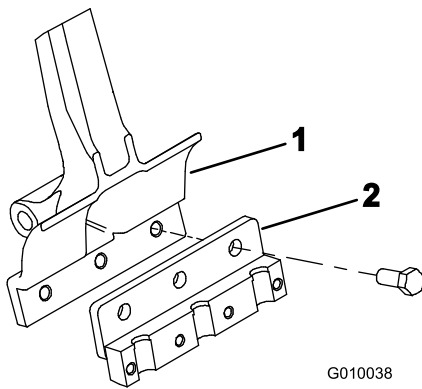

Figure 24
3. Mount a tine holder to each tine arm (Figure 24) with 3 bolts (1/2 x 1-1/4 inches). Torque the bolts to 101.6 N·m (75 ft-lb).